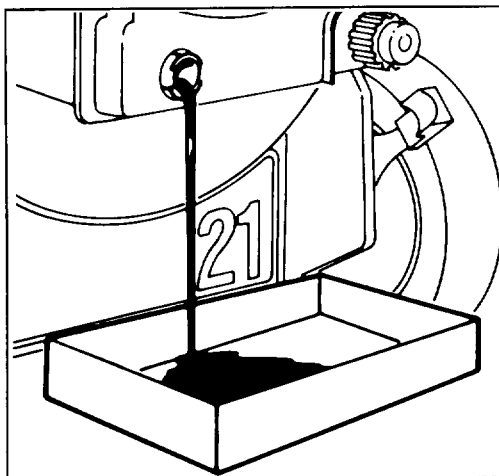

Figure 14
3. Remove dipstick. Tip mower forward and empty all oil into drain pan (Fig. 14). Tip mower down and up a few times to ensure oil drains completely.